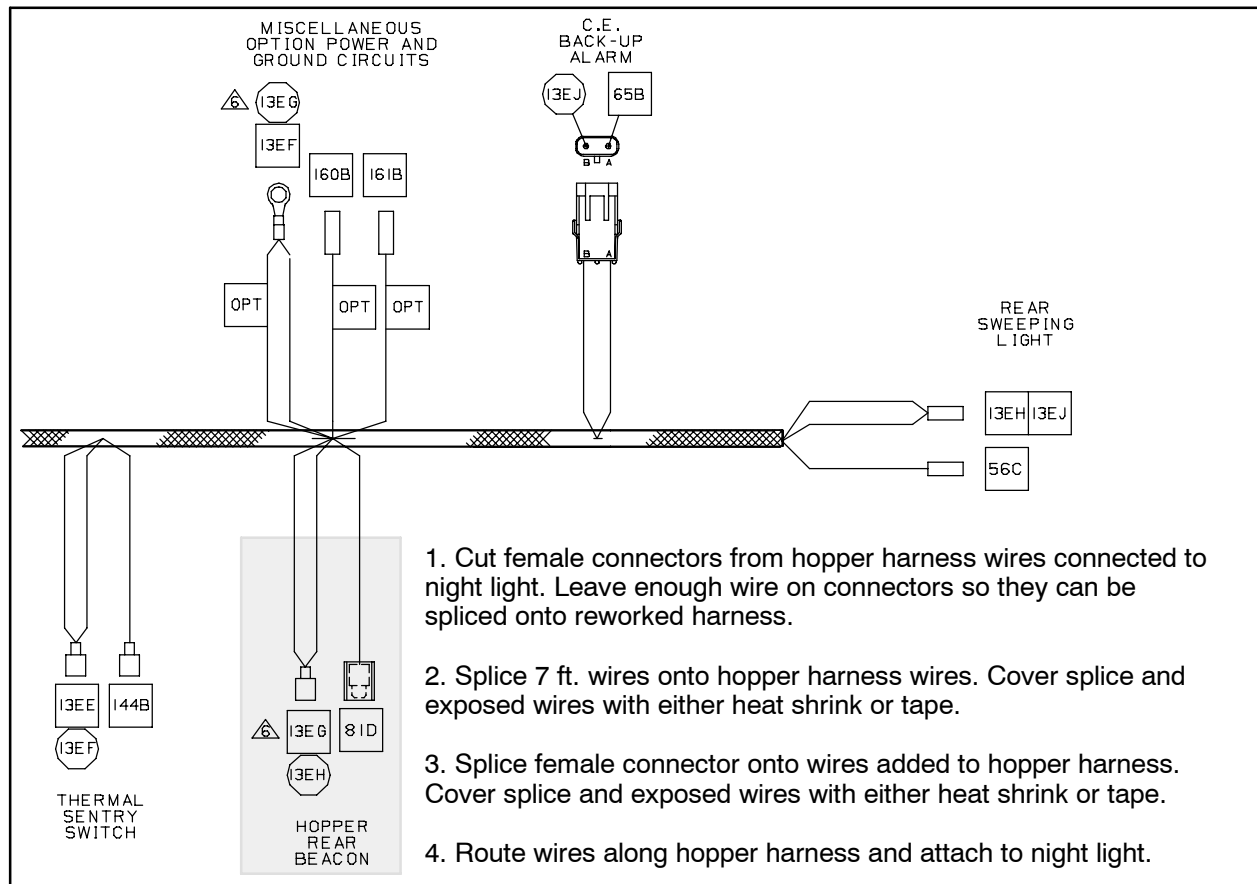

FIG. 30
53. Cut the female connectors from the portion of the hopper harness previously attached to the night light. Leave enough wire on the connectors so they can be spliced onto the reworked harness. Set the connectors aside. Refer to Fig. 30.
54. Splice 7 ft. of wire onto each wire cut in the previous step. Apply heat shrink or wrap tape over each splice to protect the splice and exposed wires from the elements. Refer to Fig. 30.
55. Splice the female connectors onto the ends of the 7 ft. wires. Apply heat shrink or wrap tape over each splice to protect the splice and exposed wires from the elements. Refer to Fig. 30.
56. Route the wires spliced to the hopper harness along the hopper harness and to the side of the machine where the night light is mounted. Use cable ties (12) to secure the wires to the hopper harness.
57. Connect the wires spliced to the hopper wire harness to the night light. Refer to Fig. 30.